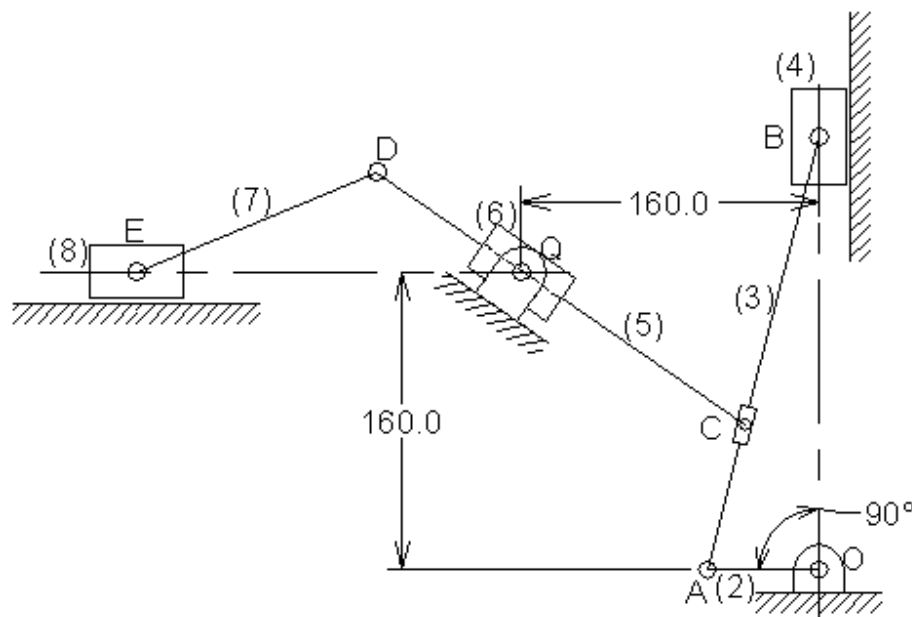

Figure P2.35
2.35 In the mechanism shown in Figure P2.35 link (2) rotates clockwise at 100 rpm. Find the velocity and the acceleration of block (8).